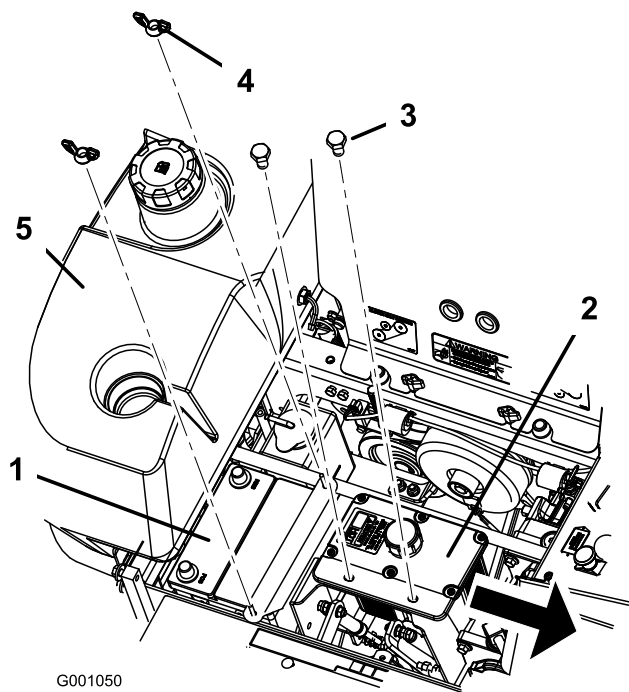

Figure 53
6. Remove both wing nuts (1/4 inch) securing the battery clamp (Figure 53).
7. Remove the two bolts holding the hydraulic tank in place (Figure 53).
6. Secure battery with J-bolts, hold down clamp and 2 washers (1/4 inch), and 2 wing nuts (1/4 inch) (Figure 53).